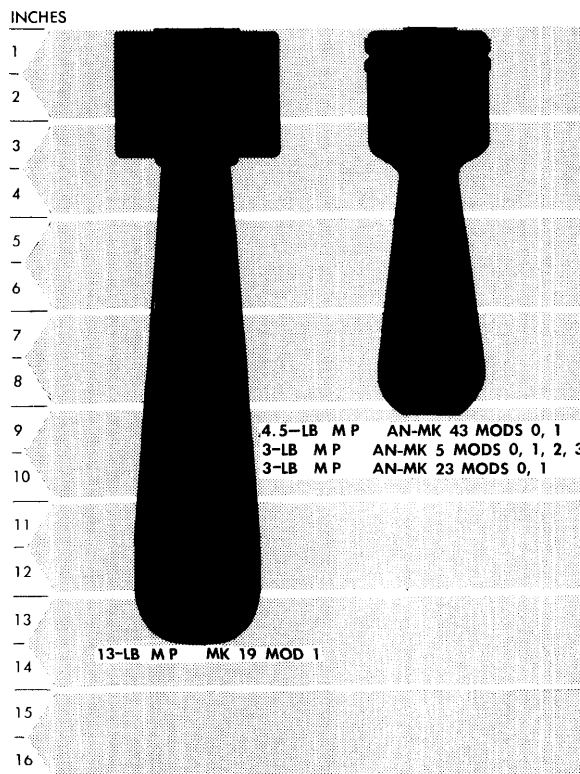

Figure 10.1—Miniature Practice Bombs, Comparative Size.
Miniature practice bombs (MP) figure 10.1, have bodies cast from lead, iron, steel, or lead antimony. Weights of miniature practice bombs range from 3 pounds to 13 pounds depending upon the density of the material and the size of the body. In the 13-lb MP Bomb Mk 19 Mod 1, steel fin blades are inserted into the mold prior to casting the bomb body. Fin blades are cast integrally for the 3- and 4.5-lb MP bombs.